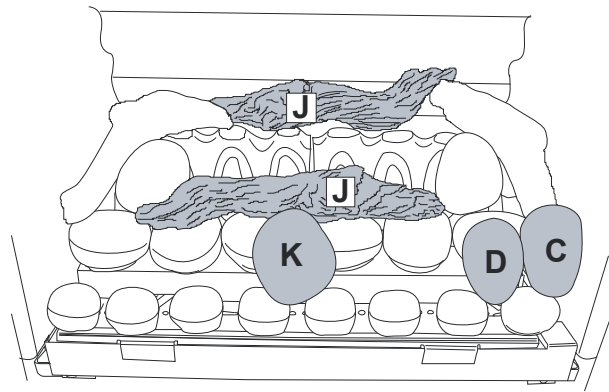

Figure 39
6. Next place the two **J** driftwood pieces and the **K**, **D** and **C** pebbles as in **Figure 39**.